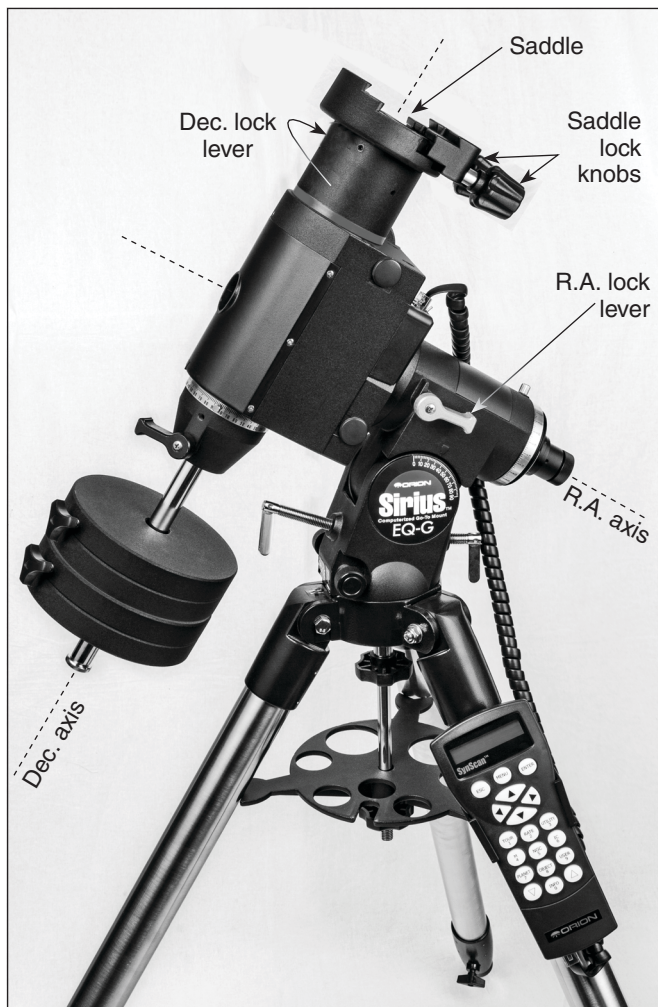

Figure 7. Before mounting a telescope, orient the saddle so the grooves run side to side, as shown here.
2. Loosen the Dec lock lever and orient the saddle so it runs side-to-side as shown in **Figure 7**. Then retighten the Dec lock lever.